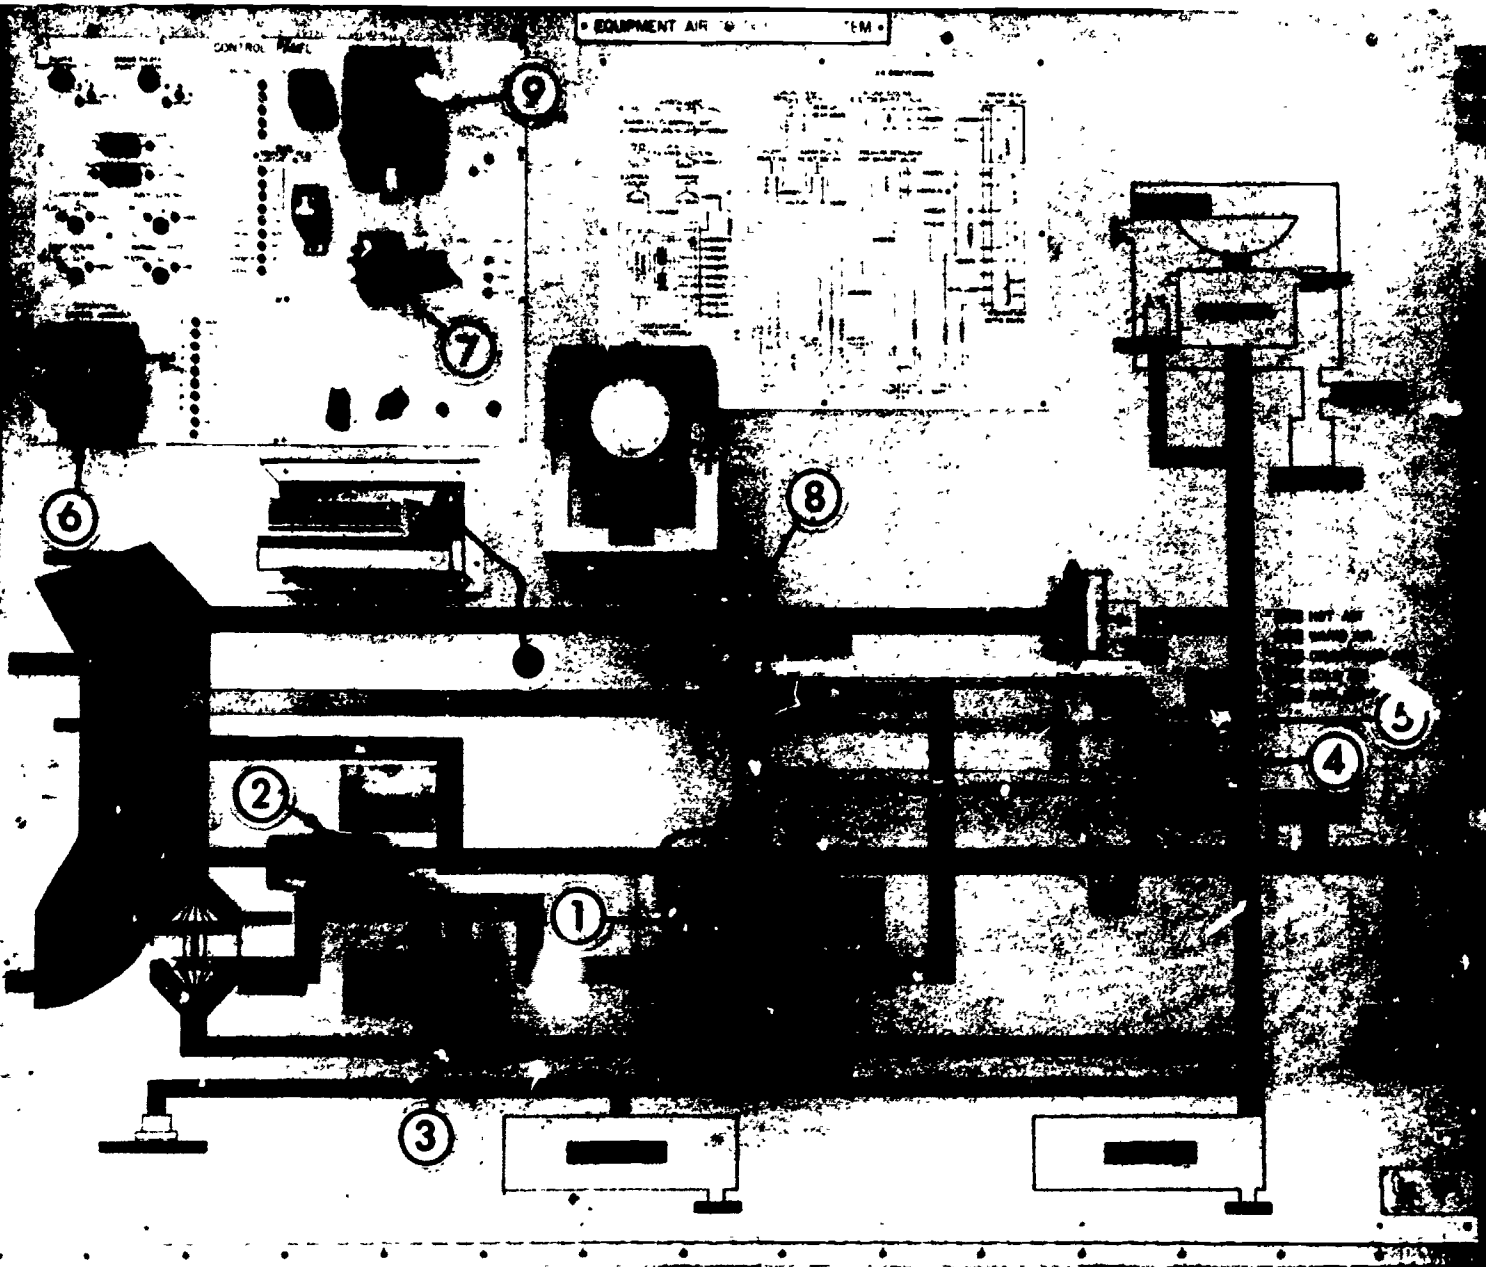

Figure 1.
a. Use figure 1 to locate each of the numbered items on the trainer. Write the name of each of the numbered components in the spaces following. As you locate each item, notice the electrical checkpoints next to them. These checkpoints are used for checking the electrical circuitry when troubleshooting.